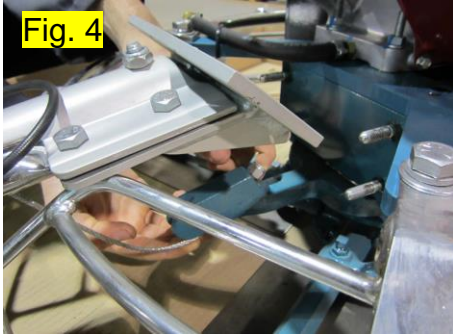

Fig. 4
**Step 3:** Install pitch control cable to yoke and install locknut loosely (Fig. 4). If needed, turn pitch control knob counter-clockwise until the stop screw is at the lowest position (Fig. 5).